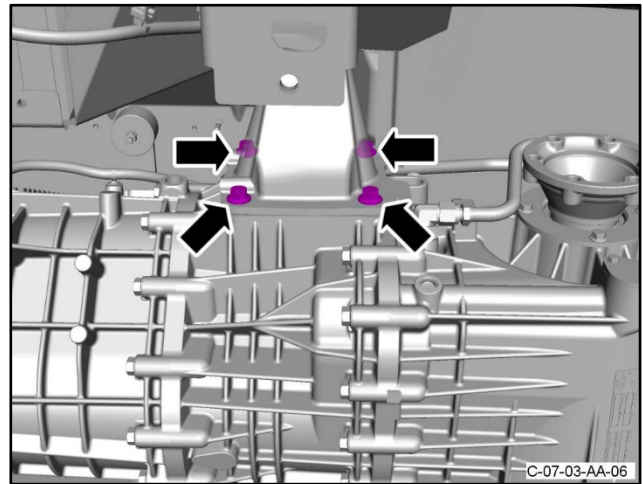

Figure 23
36. Remove and discard the four bolts that attach the left side mount bracket to the transaxle. Remove the mount bracket with the hydramount attached (refer to Figure 23).